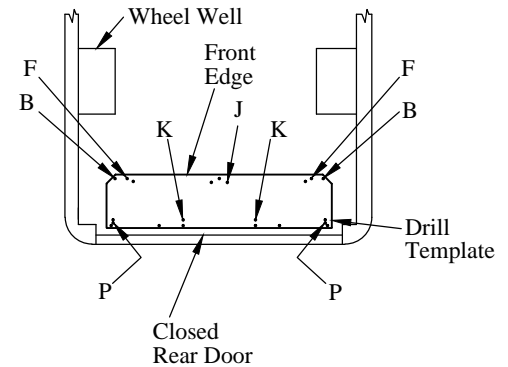

Figure 6: Drilling location (top view).
**15. Drill** 3/8" holes in nine (9) locations in the template. Drill "B", "F", "J", "K", and "P" locations only, skip all others (Figure 6).